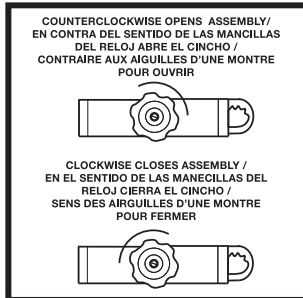

Figure 4
- For Fas-Trac Suspensions, turn knob counter-clockwise to open ratchet band to its maximum size. Turn knob clockwise to tighten and fit (Figure 4).